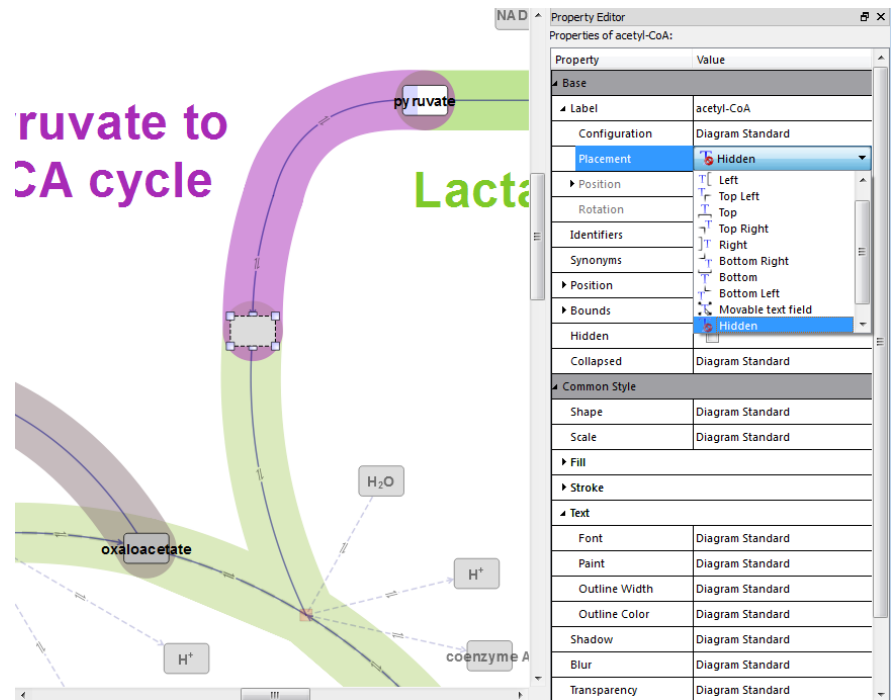

Figure 137 Edit the font properties of a metabolite in the property editor
- Click the cell for the **Placement value** under *Label, Base* in the *Property Editor* window to change the value of the label for this metabolite (Figure 137 on page 122).